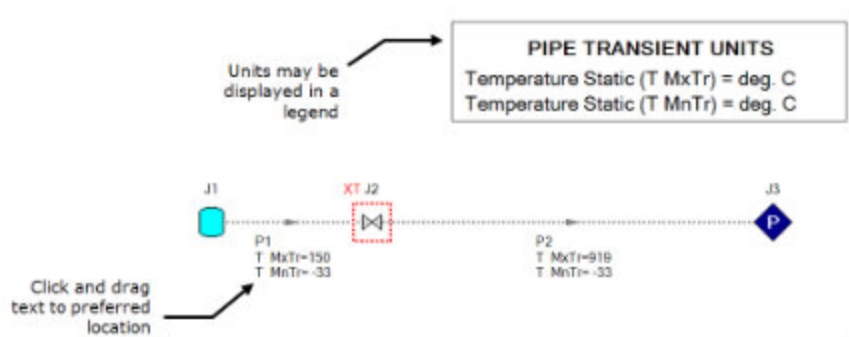

Figure 2.35 Results are superimposed on the model layout via Workspace Layers
- **Add additional clarity by repositioning the labels and adding a legend.** It is common for the text on the Workspace Layers to overlap with objects when first generated. Labels can be dragged to a new area or a smaller font can be selected using the Font Decrease icon on the Workspace Toolbar or from within the Global Layer Settings. Parameter units can be consolidated in a legend which can be added via the Global Layer Settings. In the Layers Toolbar, click the double gear icon to open the Global Layer Settings. Then, enable the checkbox for Show Units in Legend. The result of these adjustments is shown in Figure 2.35.